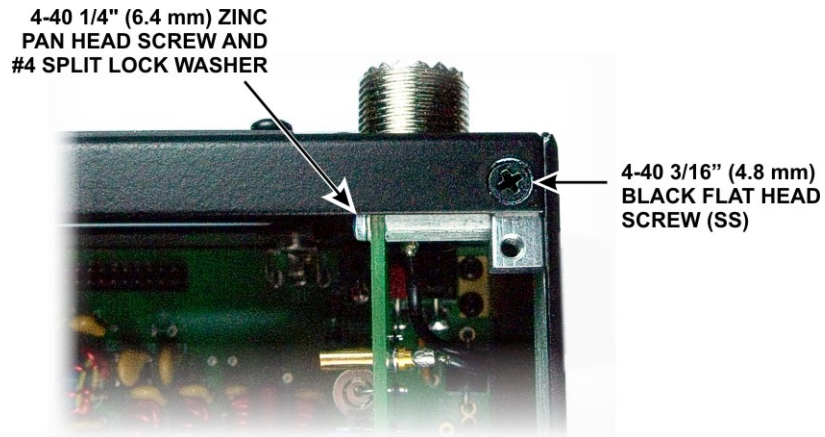

Figure 73. Installing KANT3A/KAT3A Mounting Screw.
Mount the KANT3A or KAT3A board to the standoff on the side panel with a 4-40 1/4" (6.4mm) zinc pan head screw and a #4 split lock washer under the screw head as shown in Figure 73. **Do not place a washer between the board and the standoff.**
Install a 4-40 3/16" (4.8 mm) black flat head screw (SS) to secure the top of the rear panel to the 2D fastener as shown in Figure 73.
. When properly positioned, the rear panel should fit snugly against the inside edge of the side panels as shown in Figure 73. Verify the fit is correct against the side panels at both ends of the rear panel. If necessary loosen the 2D fastener screws enough to adjust the position of the panels. .